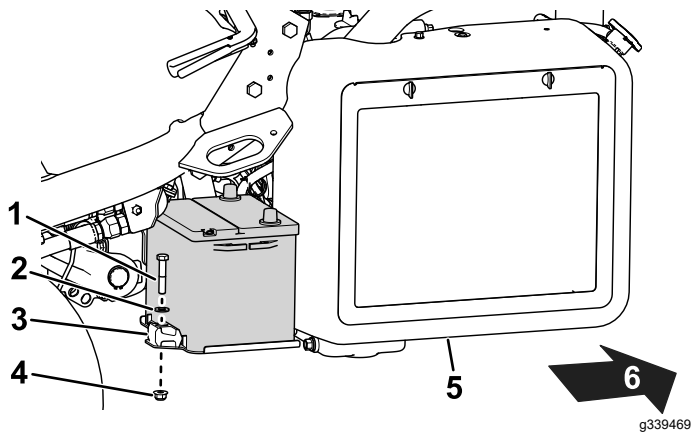

Figure 49
2. Remove the fasteners that secure the battery to the tray (Figure 49) and lift out the battery.
5. Place the battery on the battery tray and secure it with the previously removed rods and fasteners (Figure 49).